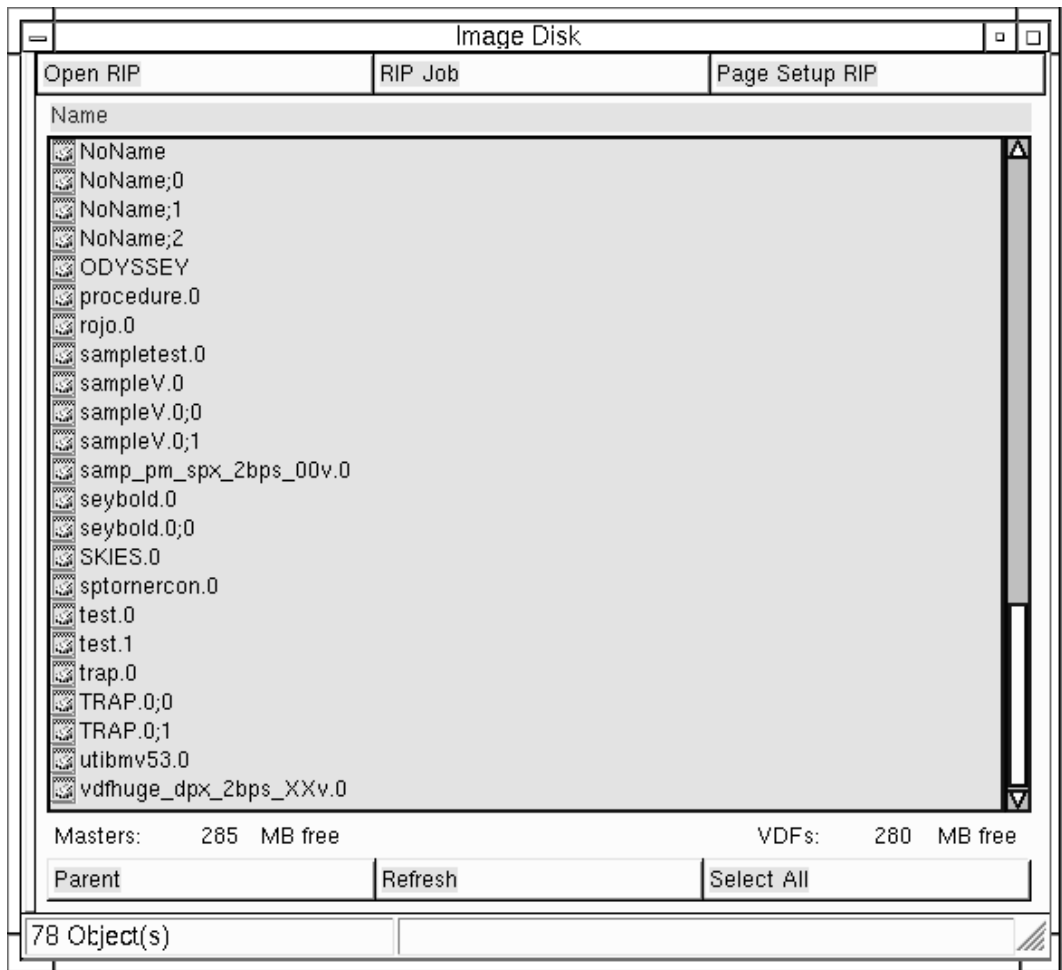

Figure 116. Image Disk Window
- 1 Open the **Image Disk** window, as shown in Figure 116 on page 170.